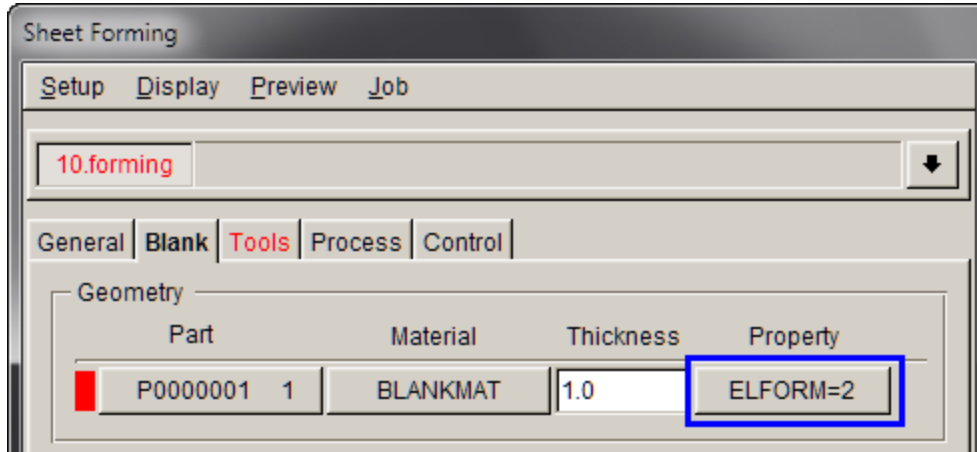

Figure 7
1. Click the button below Property (Figure 7) .